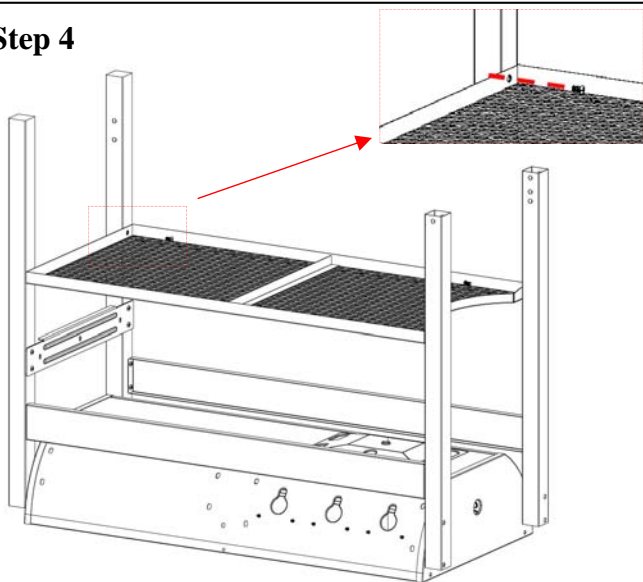

Fig. 4
*Locate:* Bottom Shelf, (4) M6x12 bolts
*Procedure:* Attach the Bottom Shelf to four Legs using (4) M6x12 bolts as shown as Fig. 4. Do not fully tighten the bolts at this time.
2. After the (4) bolts are assembled, tighten them securely.